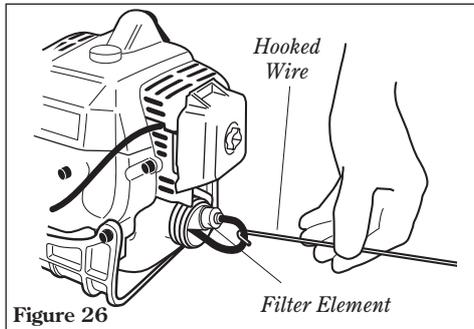

Figure 26
- Use a hooked wire to extract the fuel filter from inside the fuel tank. Remove and replace the filter element. Before reinstalling the filter, inspect the condition of the fuel line. If damage or deterioration are noted, the unit should be removed from service until it can be inspected by a Shindaiwa-trained service technician. See Figure 26.